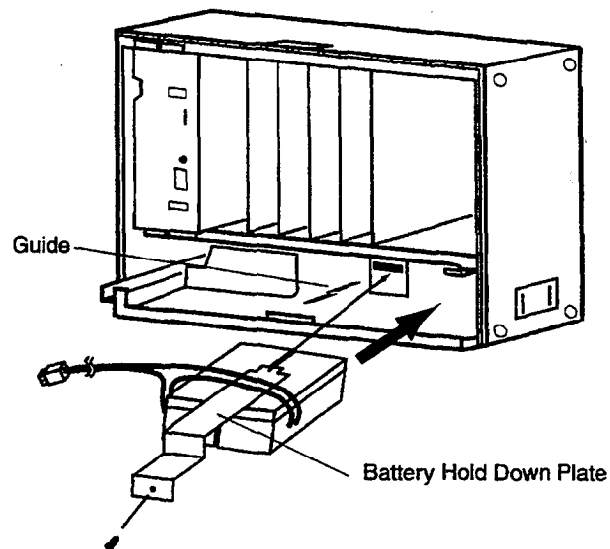

Figure 2-17 Placing the Batteries in the KSU
2. Mount the battery hold-down plate and tighten the screw. Refer to Figure 2-17 - Placing the Batteries in the KSU.